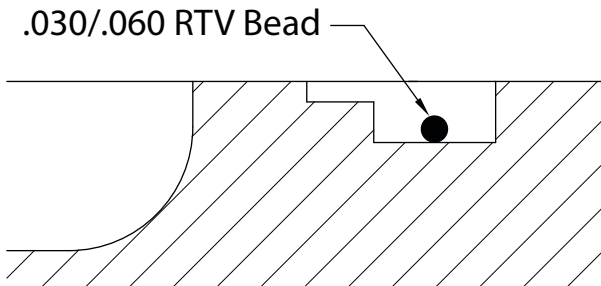

Figure 15
4.5.6.3 The 48WCB2 incorporates a dual groove for both the Loctite Superflex® #596 Sealant and an O-ring. An initial bead of sealant 0.030" - 0.060" (0,7 mm - 1,5 mm) in size must be applied to the bottom of the deep groove in order to hold the O-ring in place. See Figure 15.